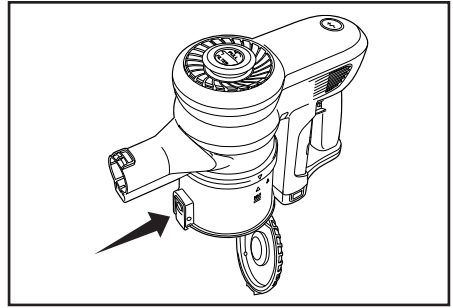

Fig. 1
3. Push the dust cup release button to release the bottom of the dust cup (Fig. 1). The base will drop down and the debris will fall into the trash container.